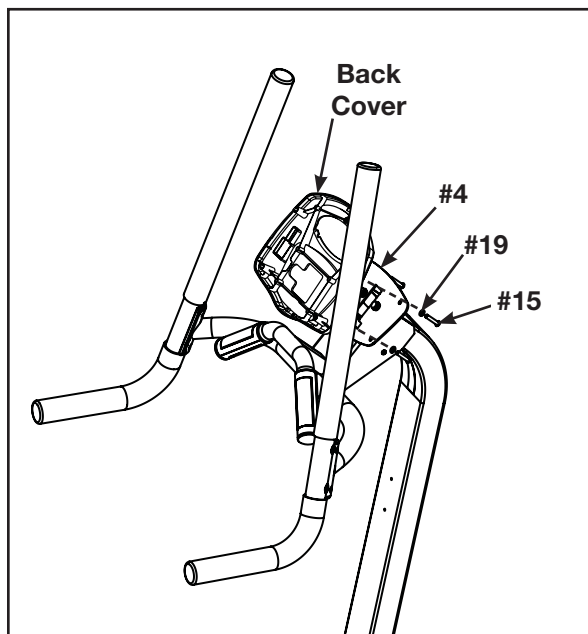

Figure 9
- C. Using a 5/32" allen wrench secure the console back to the console upright (#4) using four screws 1/4-20 x 1.25" (#15) and four washers 1/4" (#19). See Figure 9.